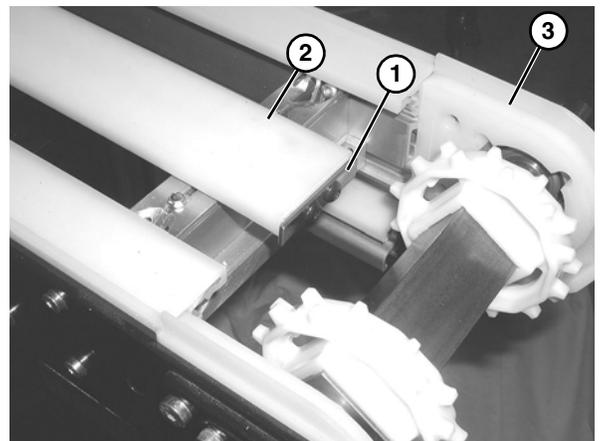

Figure 25
The stop plate (**Figure 25, item 1**) on the center wear strip (**Figure 25, item 2**) faces the drive end (**Figure 25, item 3**) of the conveyor.